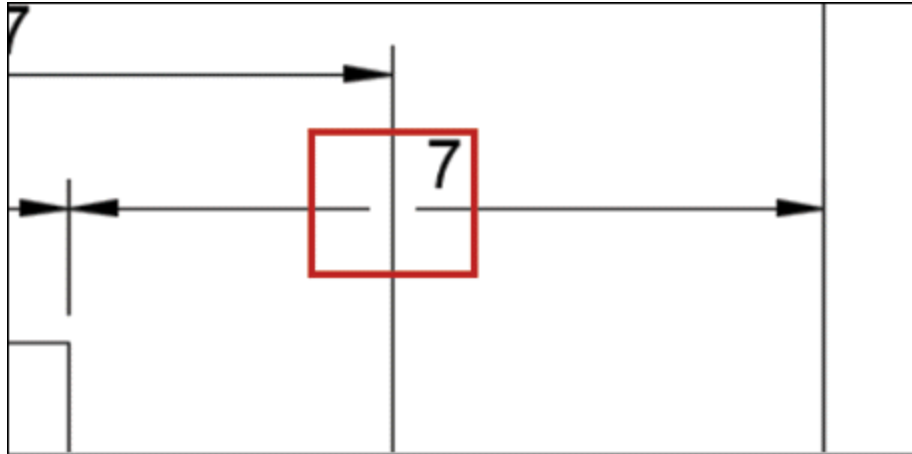

Figure-78. Dimension after applying Add Break
- Click on the **OK** button from the dialog box. The selected operation will be performed on the dimension; refer to Figure-78.